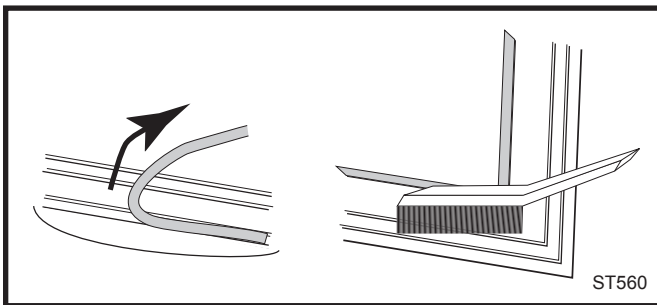

Fig. 38 Remove gasket then clean channel with wire brush.
2. Use a wire brush or the tip of a screwdriver to clean the channel of any remaining cement or bits of gasket. (Fig. 38) Remove stubborn deposits of cement with a cold chisel if necessary.